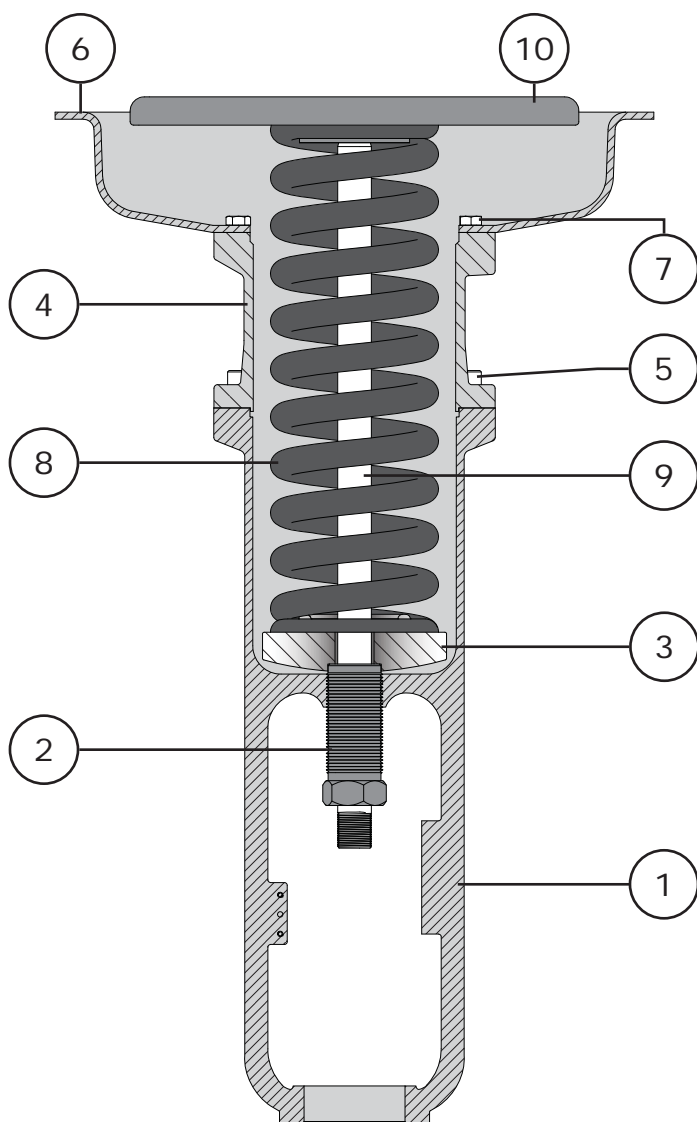

Figure 19 Spring Installation
- 1 Install the diaphragm plate/actuator stem assembly (Keys 9, 10, & 11) through the top of the actuator assembly as show in Figure 19. Use caution sliding the actuator stem through the spring adjuster (Key 2), and make sure that the diaphragm plate seats properly on the spring (Key 8).